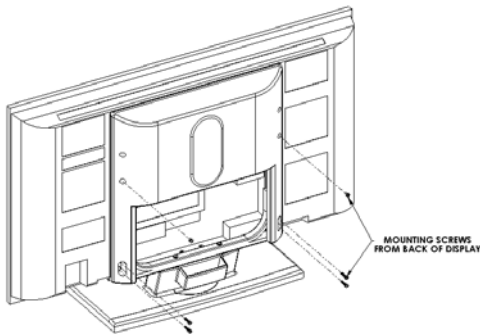
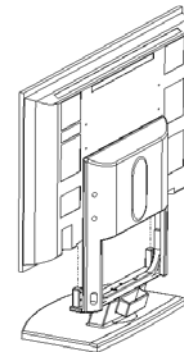

Figure 4
Figure 5
- Remove screws securing table stand to display. Remove table stand from display (see Figure 4 & Figure 5).